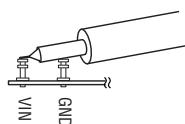

Figure 2. Measuring Input or Output Ripple
**NOTE:** When measuring the input or output voltage ripple, care must be taken to avoid a long ground lead on the oscilloscope probe. Measure the input or output voltage ripple by touching the probe tip directly across the Vin or Vout and GND terminals. See Figure 2. for proper scope probe technique.